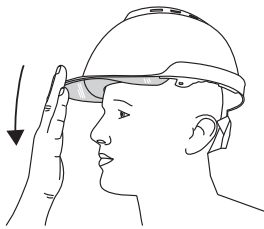

Fig. 4
- (1) Lower the visor with one hand as shown in Fig 4.